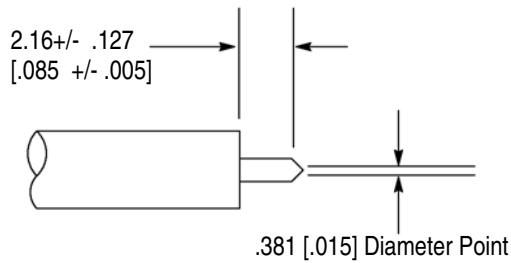

Figure 3
12. Remove the cable. The cable has now been trimmed and pointed to the dimensions shown in Figure 3.